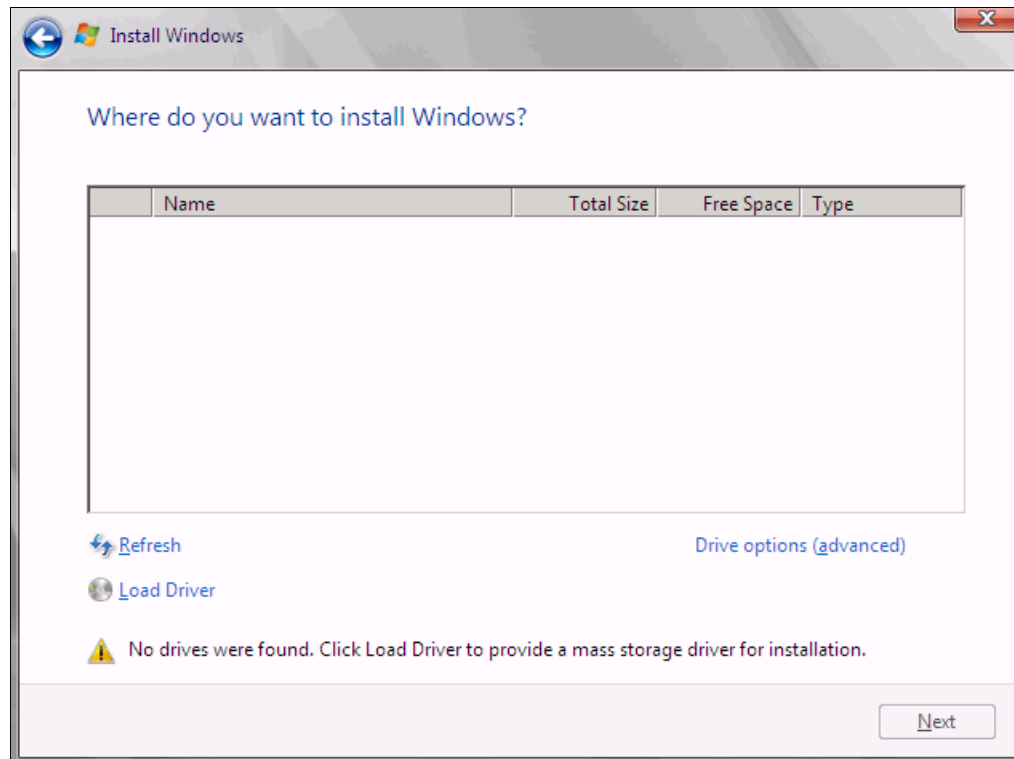

Figure 9-109 No drives found message
16. If no disks are displayed (Figure 9-109), insert the media that contains the drivers. The media can be in the form of a USB key, CD, or DVD, on a remotely mounted ISO. Then click **Load Driver** to load a driver for your storage device (Emulex card).